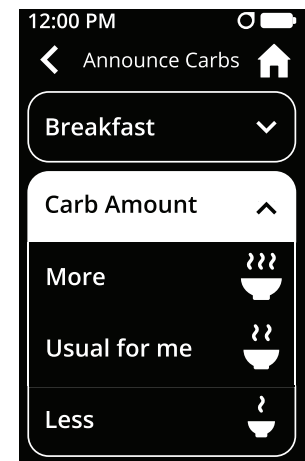

Figure 99
- Confirm that the correct Meal Type is selected (see Figure 99). You may change it by tapping on the meal you selected previously.
- Tap Usual for me. Choose from 3 Carb Amounts: More, Usual for me, and Less (see Figure 99).